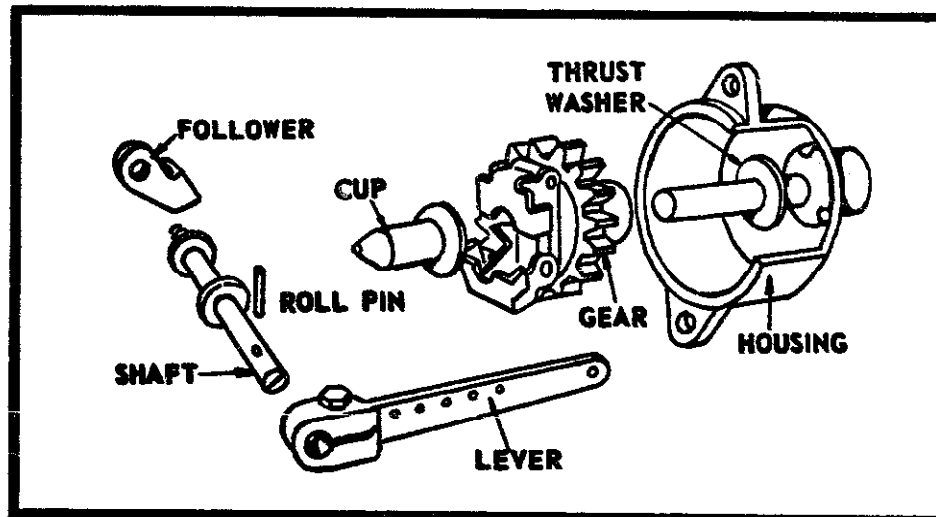

Fig. 4-4. The governor used on models 6B, 8B, 60000, 80000, and 140000 is typical of all centrifugal types. (Courtesy Briggs & Stratton Corp.)
The heart of the mechanism is a pair of revolving weights known as flyweights (Fig. 4-4). The weights are driven by a gear and revolve with the engine. Centrifugal (or, more precisely, centripetal) force flings the weights outward, with only the pivots restraining them. This outward motion is proportional to the square of engine speed, increasing dramatically at high rpm. As the weights move, they slide the cup to the left, camming the follower and its attached lever.
**Models 6B, 8B, 60000, 80000, 140000.** This governor, shown in exploded view in Fig. 4-4, is serviced from outside the engine. To disassemble, loosen the pinch bolt on the governor lever and disengage the lever from the governor shaft. Remove the two capscrews holding the governor case to the engine. As the case is